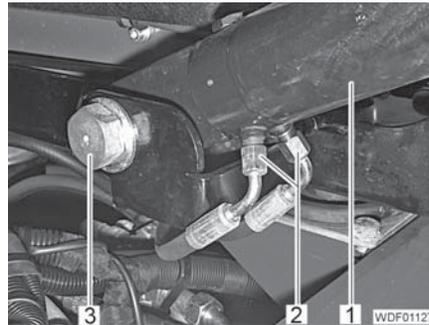

Fig. 412 Connections of the hydraulic cylinder
- Unscrew and close off the 2 hydraulic lines (Fig. 412,2).
- Unscrew the screw (Fig. 412,3).
- Lift up the hydraulic cylinder (Fig. 412,1) screw in and tighten the screw (Fig. 412,3).
- Screw the 2 hydraulic lines (Fig. 412,2) onto the connections on the hydraulic cylinder and tighten.